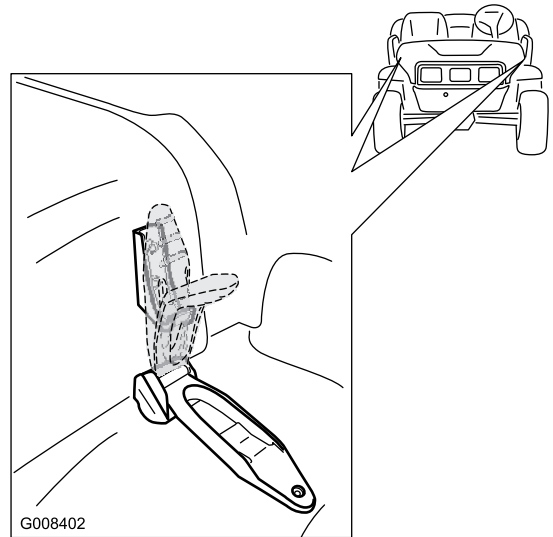

Figure 22
1. Lift up the handle of the rubber latches on each side of the hood (Figure 22).
2. Secure the hood by aligning the rubber latches onto the latch anchors on each side of the hood (Figure 22).